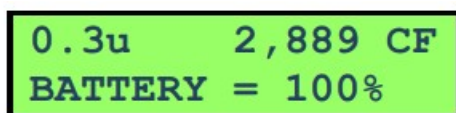

Figure 6 – Battery Status
1. Rotate the Select dial to display channels 2-4 and battery status on line 2 (Figure 6).